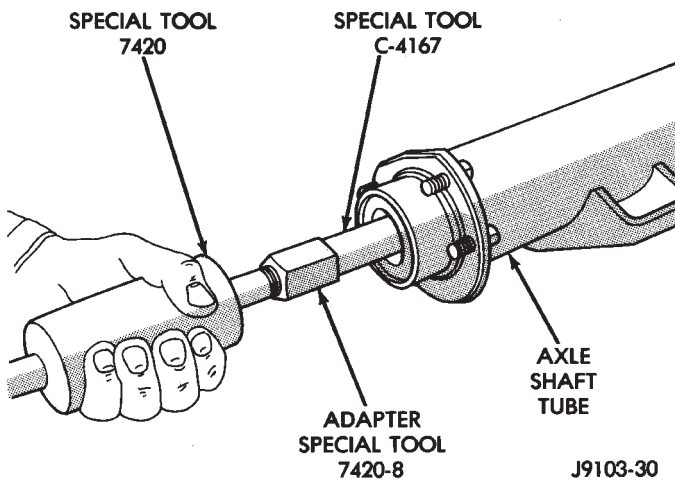

Fig. 5 Axle Shaft Bearing Removal
- (1) Remove the axle shaft seal with a small pry bar.
- (2) Remove the bearing if it appears damaged or the axle shaft shows any of the conditions described above.
- (3) Remove the bearing with Remover C-4167 (Fig. 5). Attach Slide Hammer 7420 and Adapter 7420-8 to the end of the removal tool.
- (4) Inspect the axle shaft seal surface and tube bore for roughness and burrs. **Polish each axle shaft with No. 600 crocus cloth. This can remove slight surface damage. Do not reduce the diameter of the axle shaft seal contact surface. When polishing, the crocus cloth should be moved around the circumference of the shaft (not in-line with the shaft).**